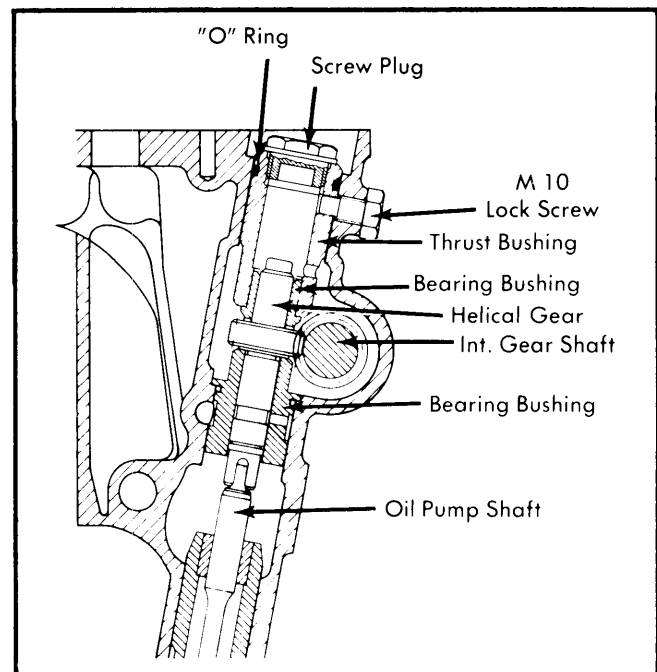

Fig. 13 Location of Thrust Bushing Lock Screw
**NOTE** – Beginning at Chassis No. 31200 (Engine No. 012967), the yellow lock screw (M8) securing the thrust bushing in the oil pump drive was replaced with a black lock screw (M10). To improve the secure positioning of thrust bushing, the black screw (615 990 01 15) should be substituted at the earliest possible opportunity. Tighten lock screw to 11-19 ft. lbs. (1.5-2.5 mkg). See Fig. 13.